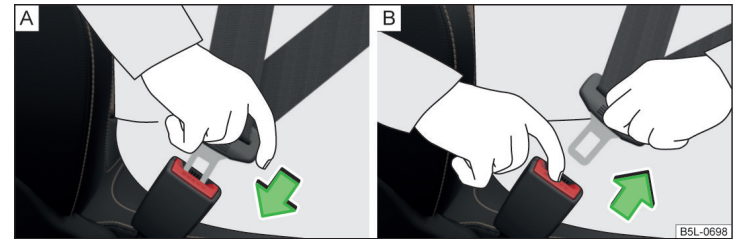

Fig. 5 Fastening/unfastening the seat belt
► Insert the lock tongue into the belt buckle » Fig. 5 - [A] that is part of the seat until it clicks into place.
► Press the red button in the belt buckle » Fig. 5 - [B], the lock tongue pops out.